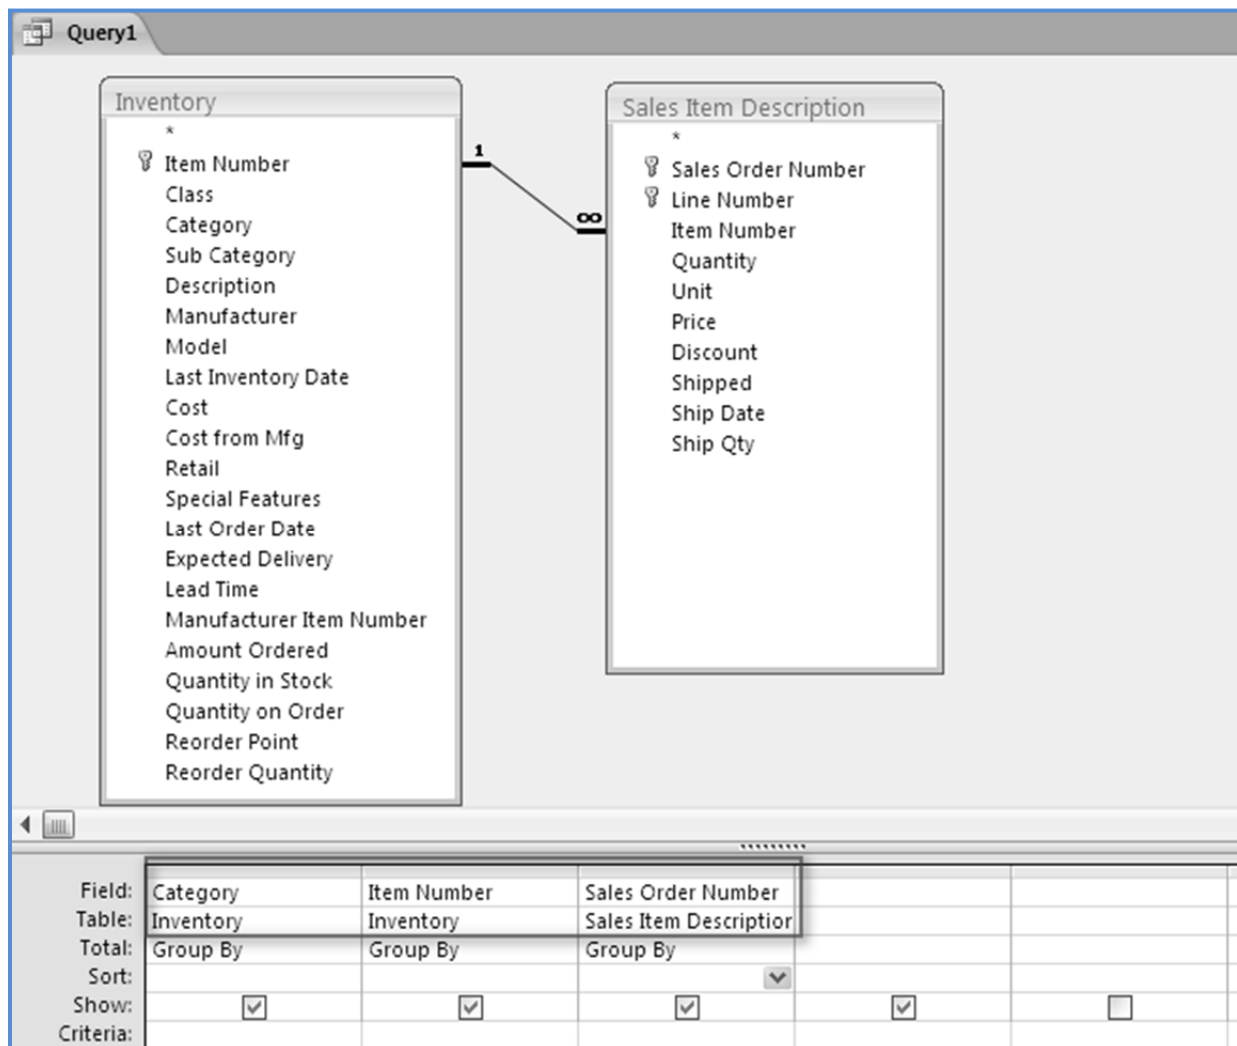

Fig. 1.2.31: Select the required columns
5. Select the fields *Category* and *Item Number* from *Inventory* table and drag them to the Columns tab. Similarly, select fields *Sales Order Number* from *Sales Item Description* table and drag it to Columns tab. The *Query Window* appears as shown in Fig. 1.2.31.